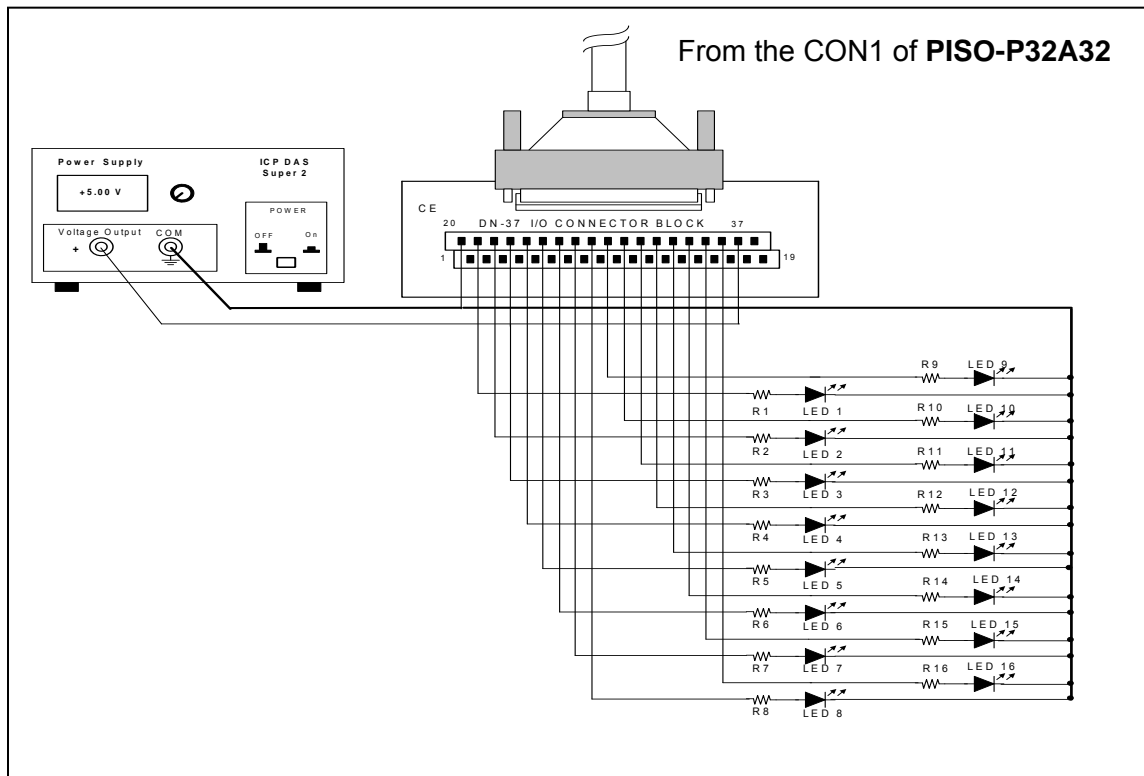

Figure 4-1-3. The circuit diagram of external device 1 for the digital outputs of PISO-P32A32/P32A32-5V/P32A32U
- Figure 4-1-3(PISO-P32A32) shows the circuit diagram of external device 1